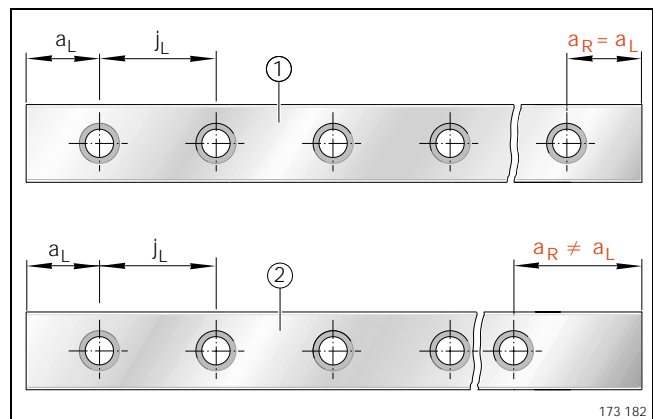
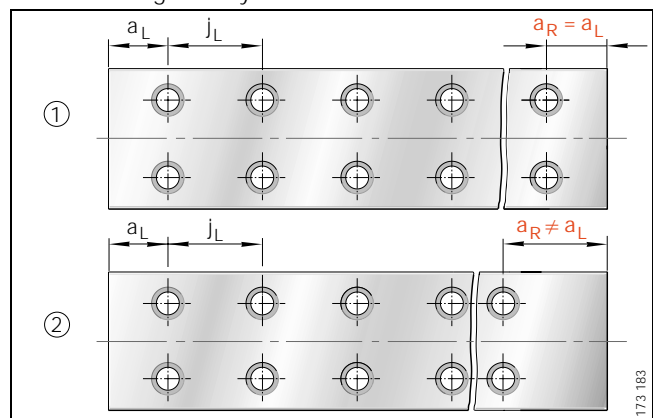

Figure 5 · Symmetrical ① and asymmetrical ② hole patterns for guideways with one row of holes
Figure 6 · Symmetrical ① and asymmetrical ② hole patterns for guideways with two rows of holes
The guideways have a symmetrical hole pattern (Figure 5 and Figure 6). With an asymmetrical hole pattern (customer request), the following must be adhered to:
■  $a_L \geq a_{L\min}$  and  $a_R \geq a_{R\min}$  (Figure 5, Figure 6).